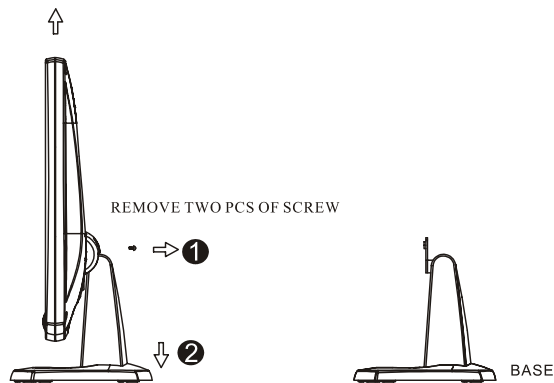

Figure 1-2
1. Remove 2 pcs of screw from back cover. (see Fig. 1-2)
Before installing to mounting device, please refer to Fig.1-2.